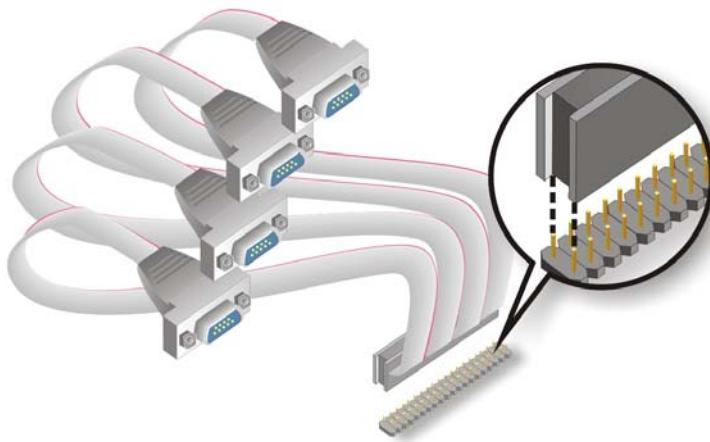

Figure 5-19: Four Serial Port Connector Cable Connection
Step 6: Align the connectors. Correctly align pin 1 on the cable connector with pin 1 on the NANO-9453 40-pin serial port connector. See Figure 5-19.
Step 7: Insert the cable connectors Once the cable connector is properly aligned with the 40-pin serial port connector on the NANO-9453, connect the cable connector to the onboard connectors. See Figure 5-19.